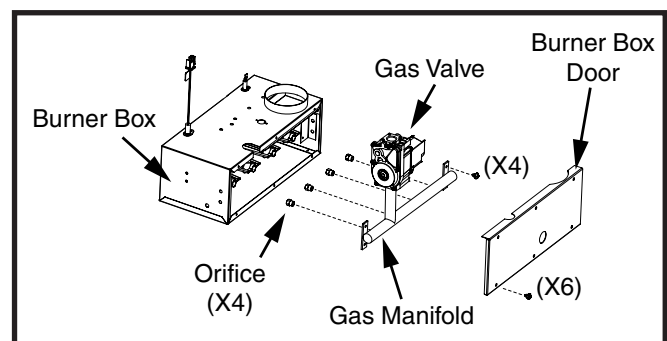

Figure 21. Orifice Removal
8. Carefully remove four screws securing the gas manifold assembly to the burner assembly. See Figure 21.